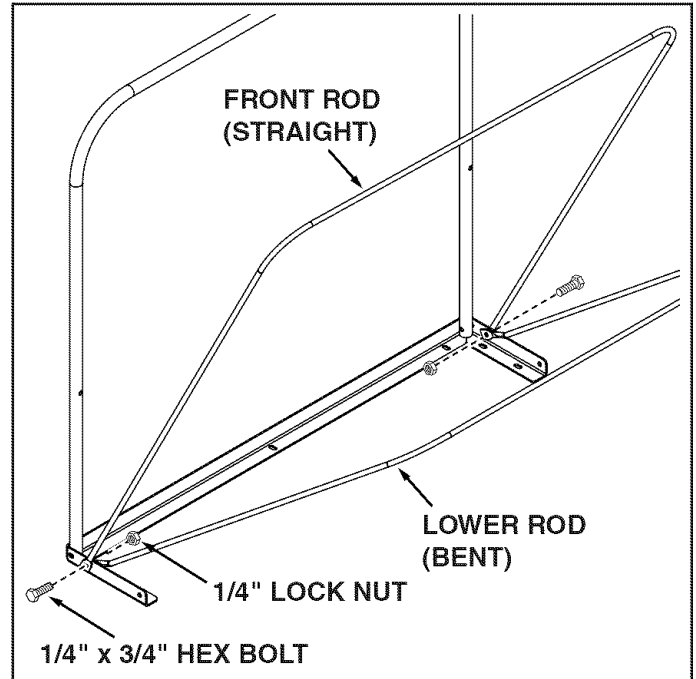

FIGURE 18
- Attach the front (straight) support rod to the **outside** of the top angle support and a lower (bent) support rod to the **inside** using two 1/4" x 3/4" hex bolts and 1/4" lock nuts. **DO NOT TIGHTEN YET**. See figure 18.